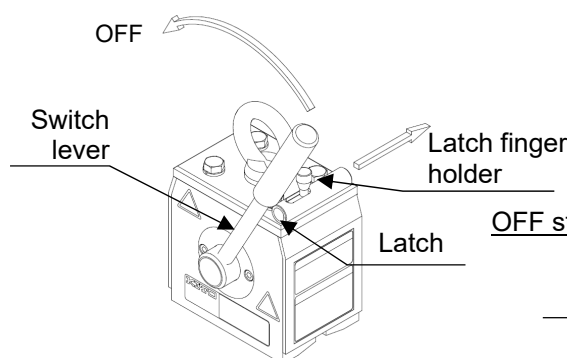

Figure 10-3 KRD8, KRD16
- (7) Always raise the load slowly, and perform transportation at the lowest practicable height above the ground.
- (8) Lower the load to the ground only after confirming safety of the surrounding area.
(9) Confirm complete grounding before releasing the latch lock. Grip the switch lever and conduct the following operation.
- KRD8, KRD16: Put a finger into the latch finger holder and press the latch toward the main body side (Figure 10-3).